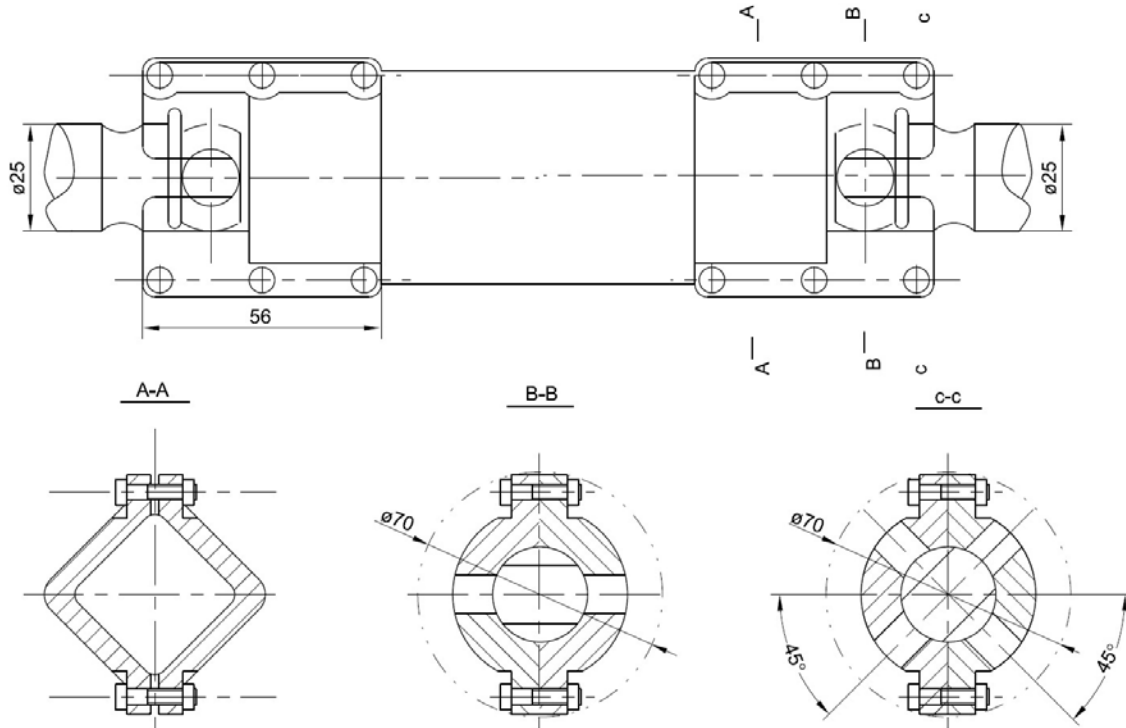

Figure23
2. Connect the motor drive unit and OLTC with the shafts according to the operation instructions of the motor drive unit (Figure 23).